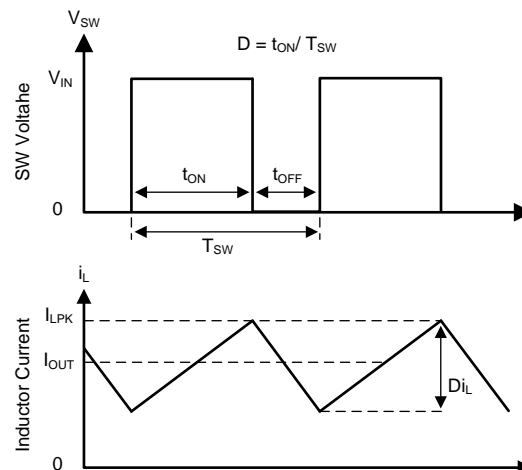

Figure 13. SW Node and Inductor Current Waveforms in Continuous Conduction Mode (CCM)
The following operation description of the TPS560430 will refer to the Functional Block Diagram and to the waveforms in Figure 13. TPS560430 is a step-down synchronous buck regulator with integrated high-side (HS) and low-side (LS) switches (synchronous rectifier). The TPS560430 supplies a regulated output voltage by turning on the HS and LS NMOS switches with controlled duty cycle. During high-side switch ON time, the SW pin voltage swings up to approximately V_{IN} , and the inductor current i_L increase with linear slope $(V_{IN} - V_{OUT}) / L$. When the HS switch is turned off by the control logic, the LS switch is turned on after an anti-shoot-through dead time. Inductor current discharges through the low-side switch with a slope of $-V_{OUT} / L$. The control parameter of a buck converter is defined as Duty Cycle $D = t_{ON} / T_{SW}$, where t_{ON} is the high-side switch ON time and T_{SW} is the switching period. The regulator control loop maintains a constant output voltage by adjusting the duty cycle D . In an idea Buck converter, where losses are ignored, D is proportional to the output voltage and inversely proportional to the input voltage: $D = V_{OUT} / V_{IN}$.